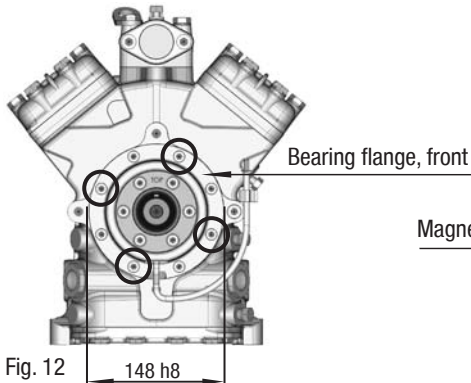

Fig. 12
- To absorb the magnetic field of the electromagnetic clutch, the front bearing flange has a snug fit $\varnothing 148$ h8 (see Fig. 12).
- To connect the magnetic field, loosen the 4 cheese head screws M8 on the bearing flange (see Fig. 12).